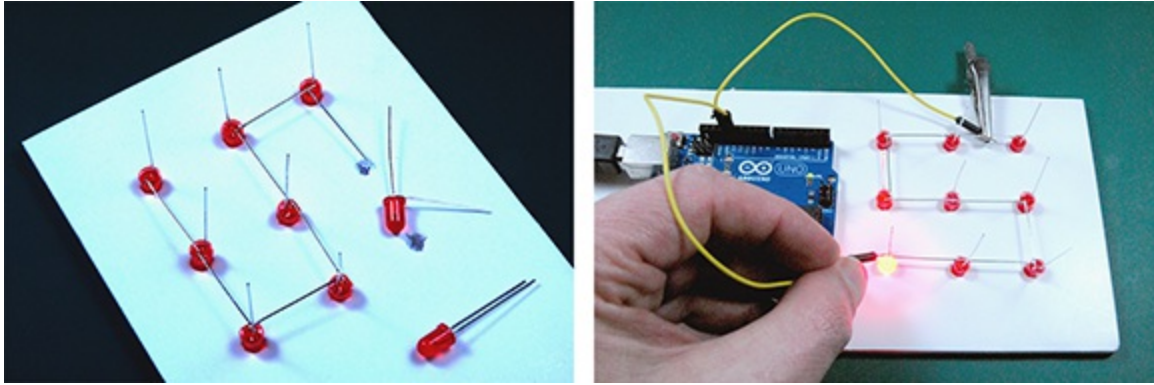
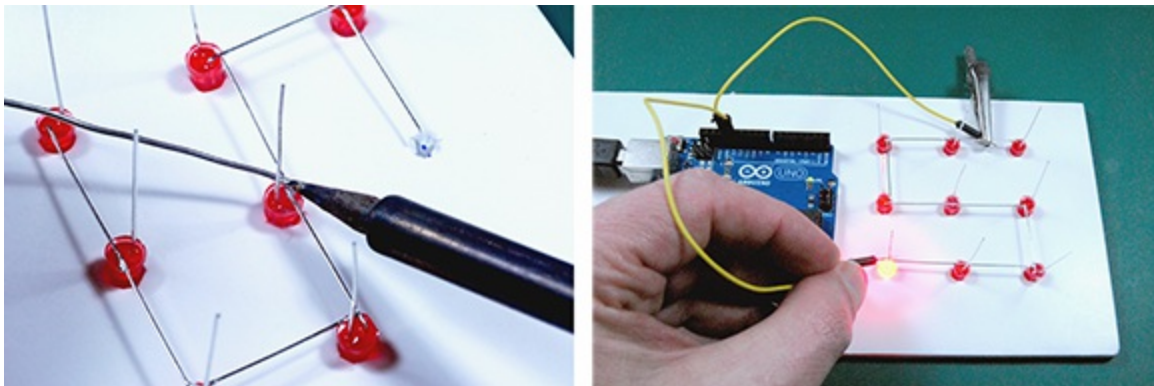

Figure 15-3: Laying out LEDs and bending your cathode legs.
Figure 15-4: Soldering your cube layers.
The cathode “–” leg of each LED is connected to its neighbor so that an entire layer of cathodes forms an “S” shape. Fire up your soldering iron so that you can join the cathodes. To build your layers, perform the following steps, as shown in Figures Figure 15-3 and Figure 15-4:
That’s the way to bend your LEDs’ legs (see Figure 15-3). It doesn’t matter whether you use your right or left hand, as long as you use the same hand for the entire project.
- 6. Now touch the other probe that’s connected to Pin 13 to each of the LED anode legs that is sticking up, as shown in Figure 15-4.**